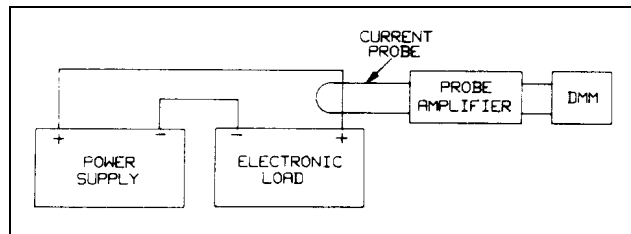

Figure 2-3. Test Setup C
- a. Connect the Electronic Load, power supply (Agilent 6032A or equivalent, DMM, and current probe as shown in Figure 2-3. Set power supply for 10V and greater than 10A.